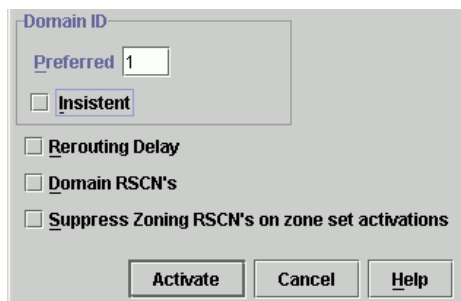

Figure 18: Configure Switch Parameters dialog box
2. Choose **Configure > Operating Parameters > Switch Parameters**. The Configure Switch Parameters dialog box displays (Figure 18).